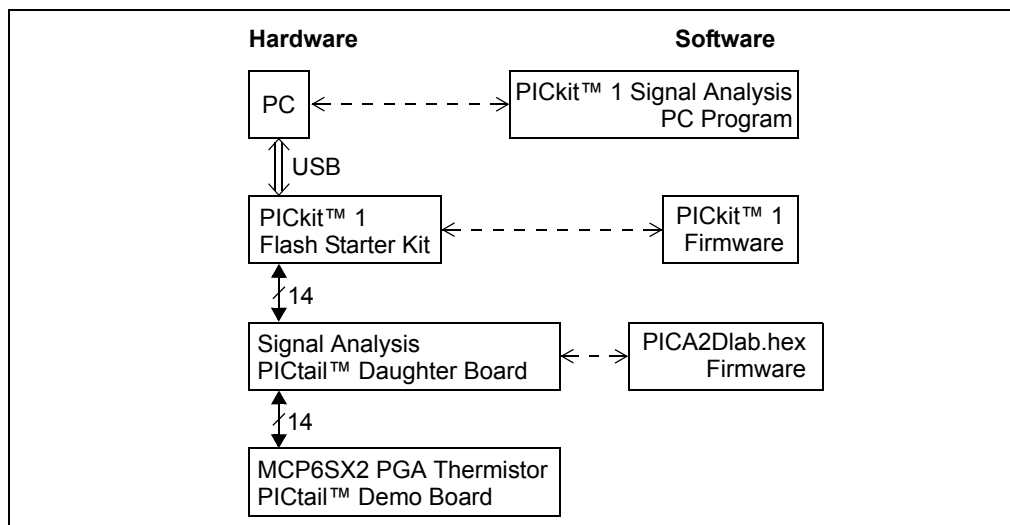

FIGURE 1-2: Measurement Set-up Block Diagram.
Figure 1-2 shows the block diagram of the hardware and software tools that the MCP6SX2 PGA Thermistor PICtail™ Demo Board is designed to work with. More information on these tools can be found in the **"Recommended Reading"** section.
The Personal Computer (PC) shown in Figure 1-2 needs to run on Windows® 98 SE or later. It provides a convenient interface for the user, communicates with the other boards and provides power through the USB connection.